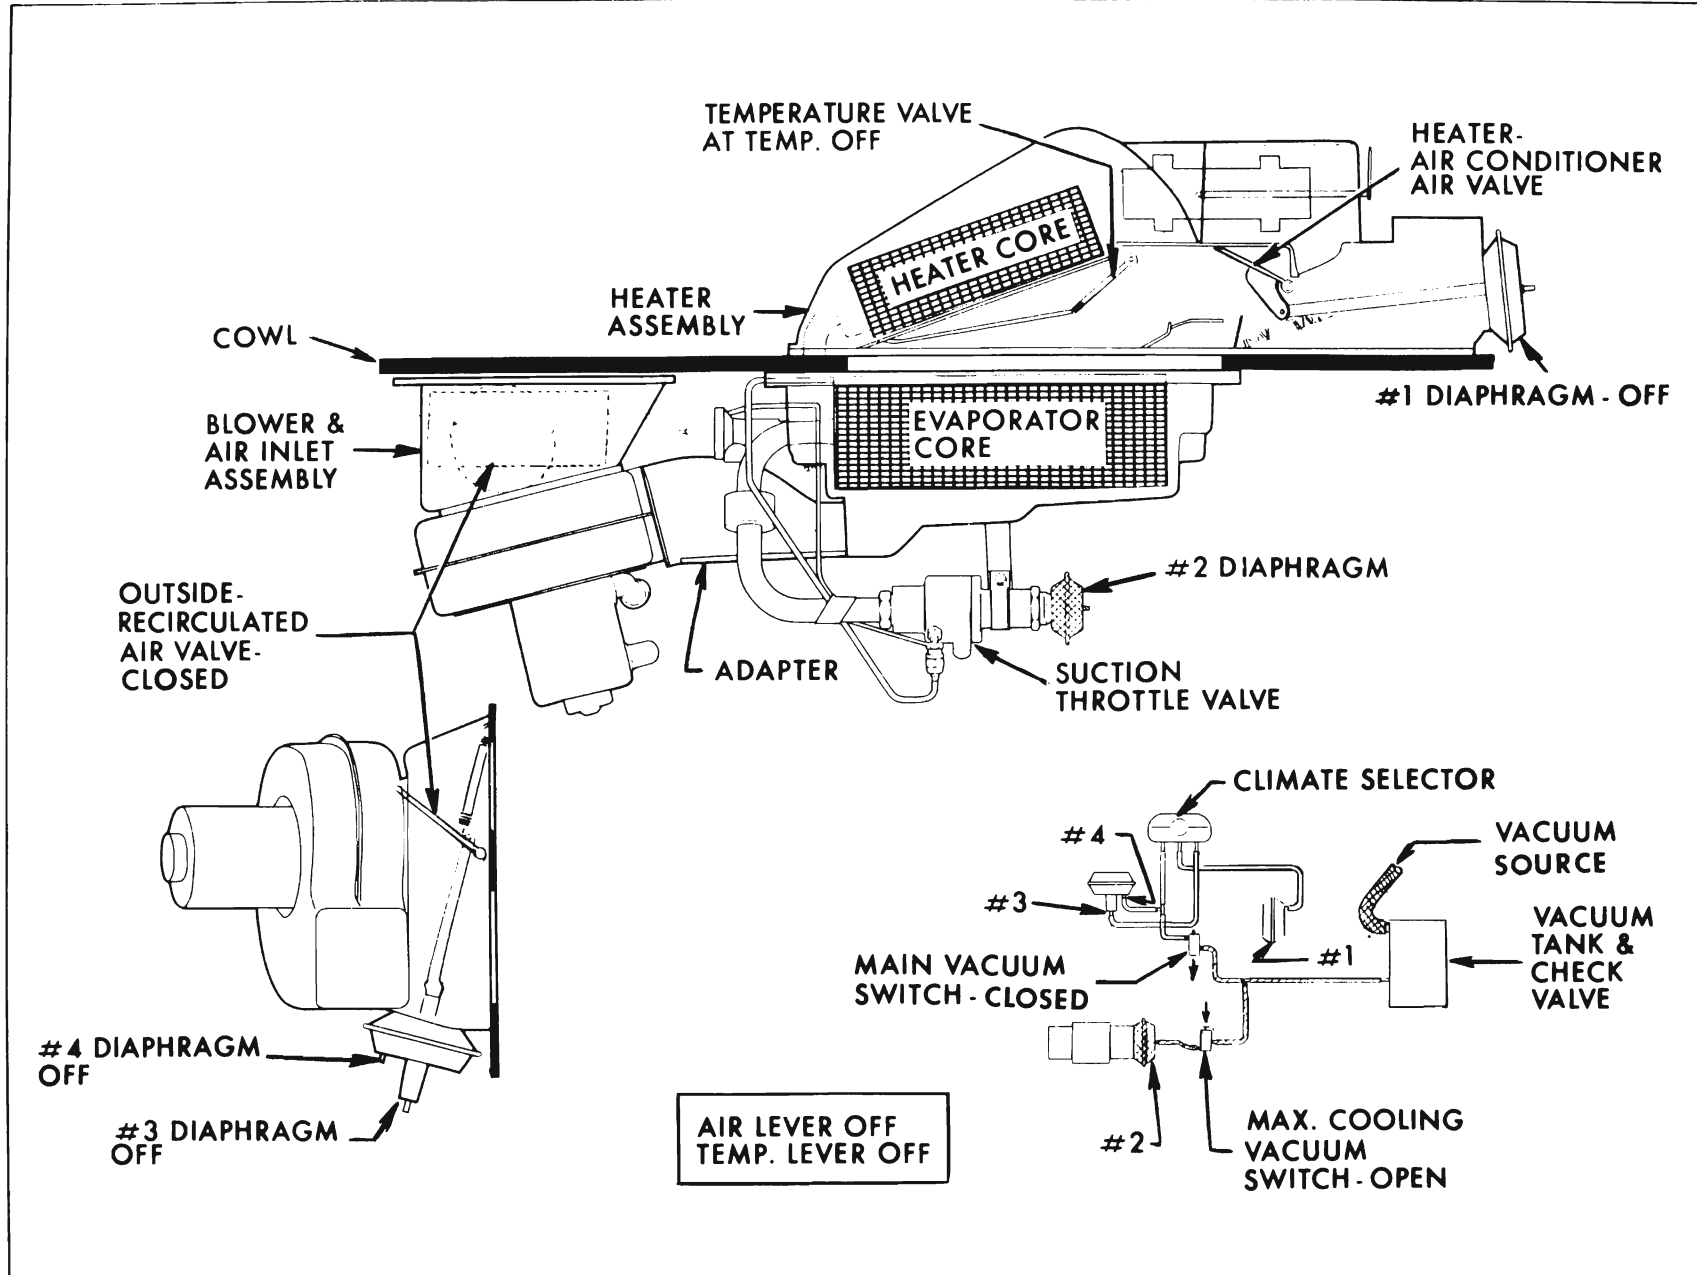

Figure 11-67—Air Conditioner and Heater Off—4400-4600-4800 Series
2. A heater-air conditioner air valve is located in the heater assembly and is operated by the #1 vacuum diaphragm. See Figure 11-67.
The heater-air conditioner air valve is normally held in the air conditioner position by a spring attached to its operating lever. See Figure 11-67. When the valve is in this position all air entering the system is directed through the air conditioner outlets. When
The main vacuum switch is closed. See Figure 11-67. The maximum cooling vacuum switch is open if the "Temp" lever is also in the "off" position. This allows vacuum to be present at the suction throttle valves vacuum diaphragm even though the air conditioner is not operating.
of vacuum switches and climate control. See Figures 11-67 through 11-70. Refer to following chart for other possible causes.